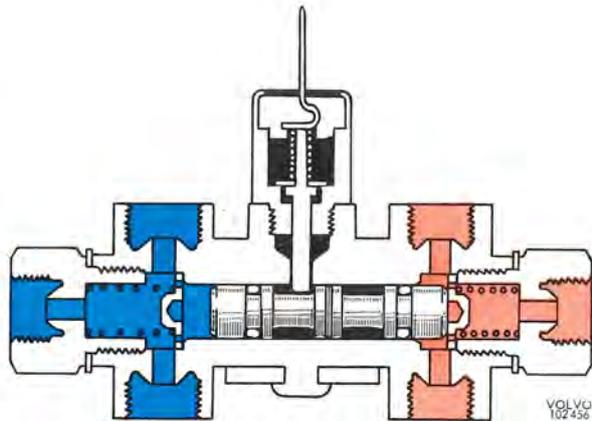

Fig. 5-40. Warning position
It is only when the pressure in the secondary circuit first exceeds that in the primary circuit by about 10 kpc/m² (142 psi) that the pistons are pushed so far to the right that the guide pin (4) can be pressed downwards. When this happens, the switch washer (2) reaches the housing (3) and current cuts in (Fig. 5-40). The guide pin is prevented from returning to its normal position until the fault has been rectified and the switch housing (3) screwed out.